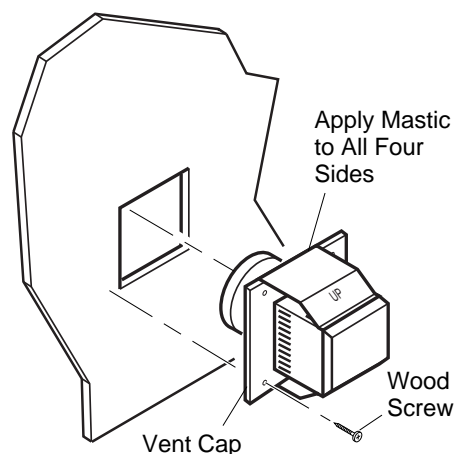

Figure 18 - Installing Horizontal Vent Cap
4. Apply a bead of non-hardening mastic around the outside edge of the vent cap. Position the vent cap in the center of the 7 1/2" or 10" hole on the exterior wall with the arrow on the vent cap pointing up. Insure proper clearance of 1" to combustibles is maintained. Attach the vent cap with four wood screws supplied (see Figure 18). **Note:** Replace the wood screws with appropriate fasteners for stucco, brick, concrete, or other types of siding.